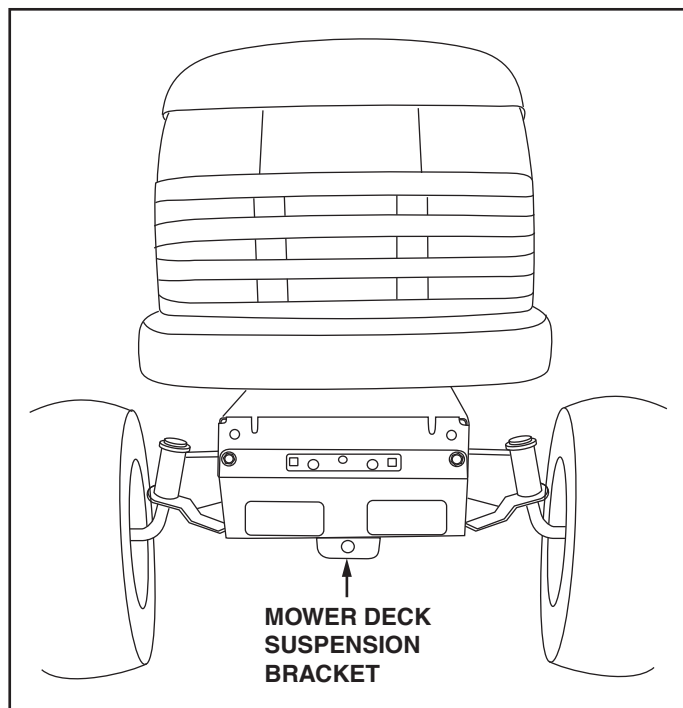

FIGURE 1
- If there is a single mower deck suspension bracket underneath the middle of the front axle as shown in figure 1 below, go to page 6 "**INSTRUCTIONS FOR TRACTORS WITH SINGLE FRONT DECK SUSPENSION BRACKET**".